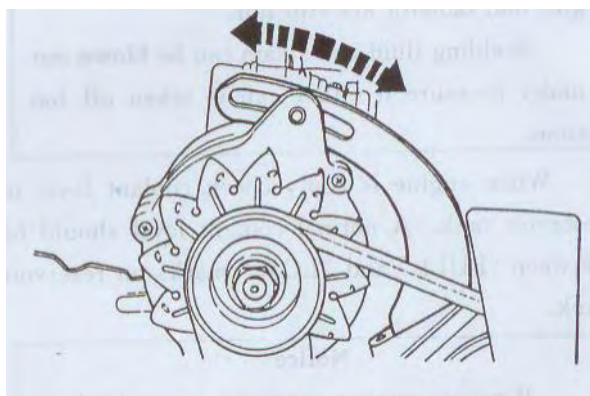

FIG.6-25 (see fig.7-29 of service manual for HFJ6351B)
- (2) If the tension being out of specification, displace the generator to slacken and adjust the belt. (FIG.6-25)。